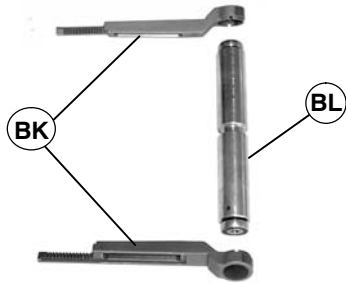

Figure 34
- Remove two head plates (BK of Figure 34) from spindle and bearing assembly (BL).